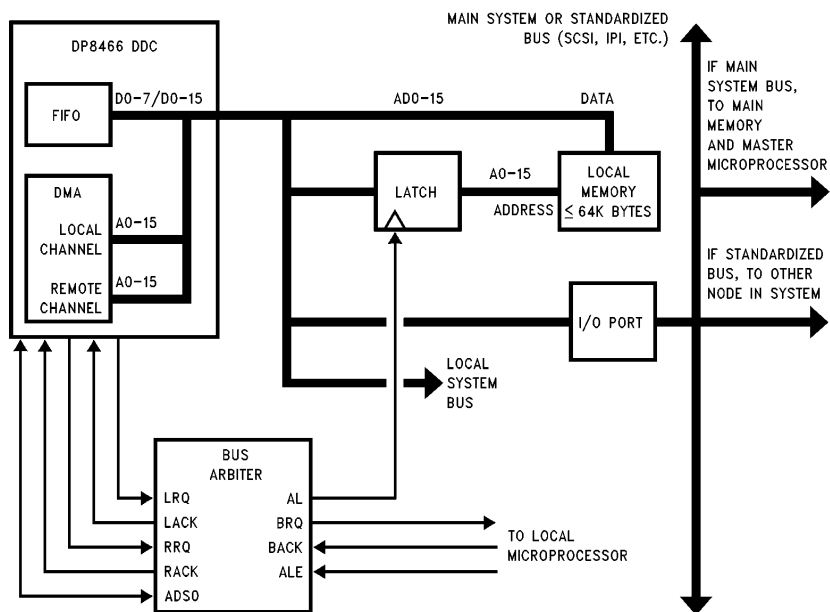

FIGURE 21. Dual System Bus, 16-Bit Address DMA
- (2) A dual bus environment with a local microprocessor, buffer memory and DP8466B on a local bus interfacing the host system bus through an I/O port (see *Figure 21*).